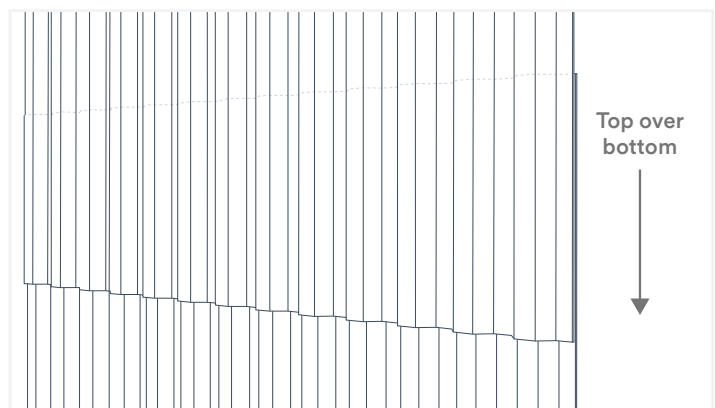

Fig. 9
8. When starting your next panel, ensure that you are overlapping properly (1 corrugation at the side, 4" at the top or bottom) as mentioned in the Overlapping panels section above (Fig 9).